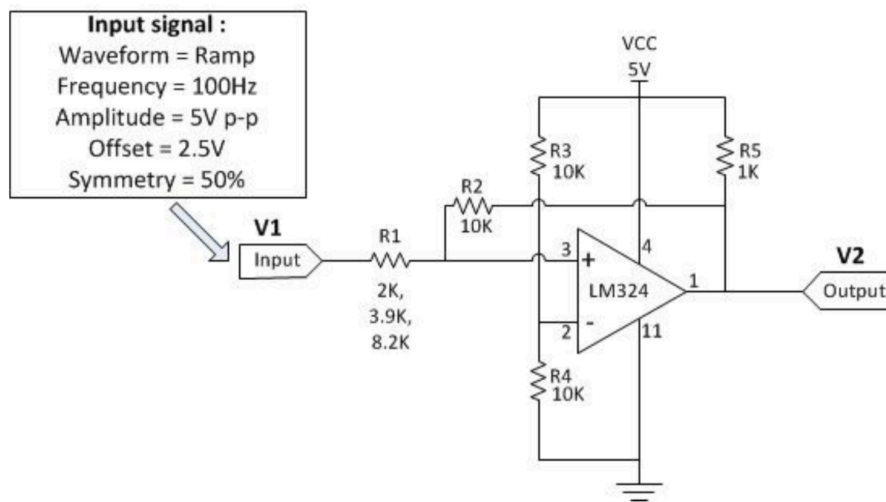

Figure 6: Non-inverting Schmitt trigger.
- 1) Use pinout diagram for LM324 op amp IC shown in Figure 1 to non-inverting Schmitt filter circuit as shown in Figure 6. (Use  $R_1 = 2K\Omega$  at first)